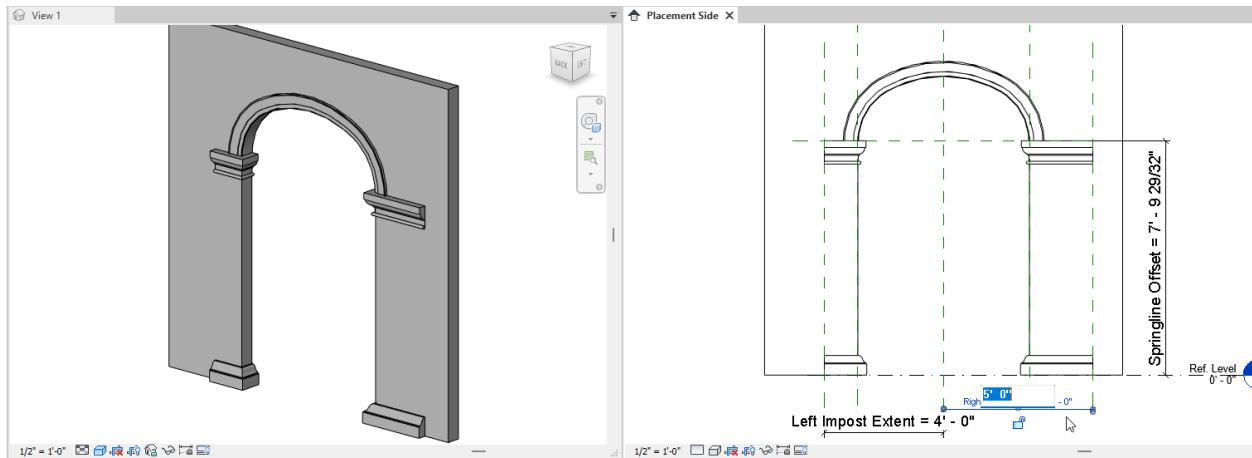

Figure 67—Complete the family and flex the molding parameters
13. Flex the Right Impost Extent and Left Impost Extent parameters to ensure that the moldings are flexing properly (see Figure 67).